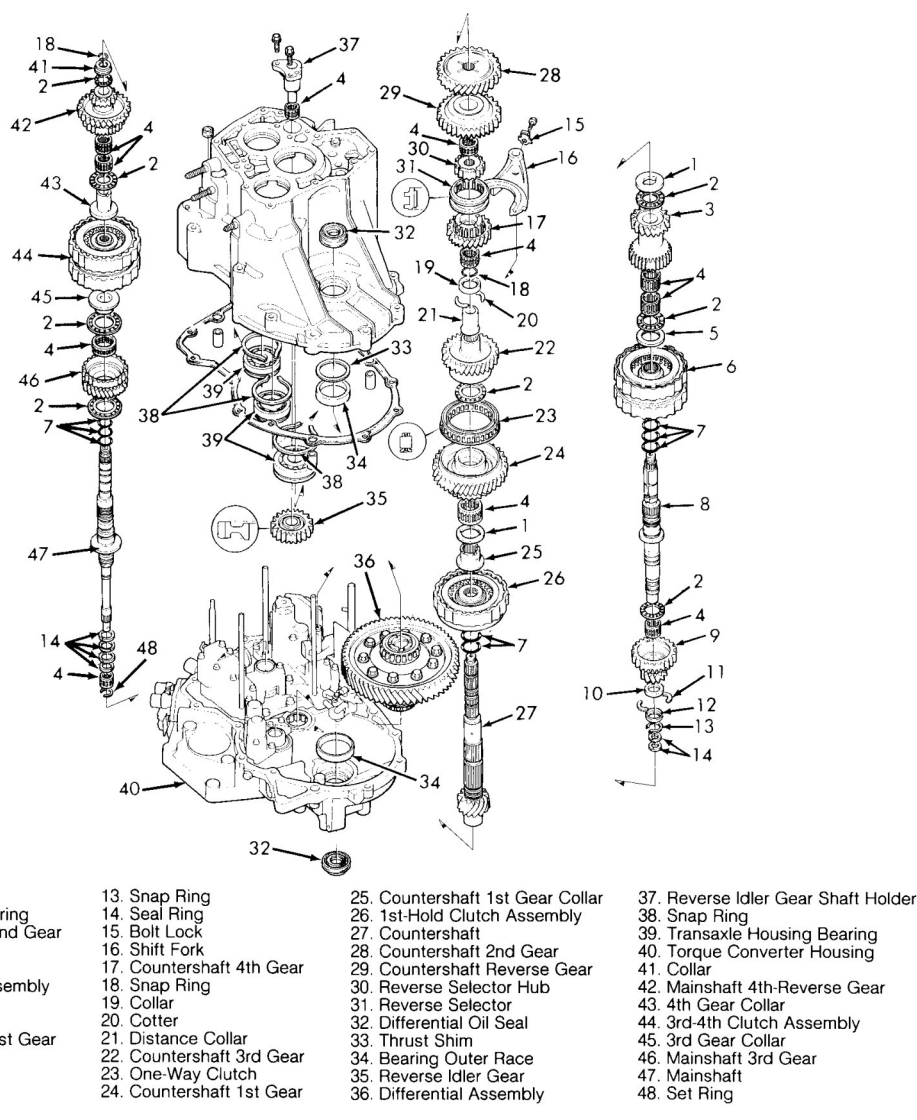

Fig. 13: Exploded View Of Transaxle Housing & Components
9. Remove reverse idler gear from transaxle housing. Remove countershaft 2nd gear, countershaft reverse gear, thrust washer, thrust needle bearing and secondary shaft 2nd gear together from countershaft and secondary shaft. See **Fig. 13**.